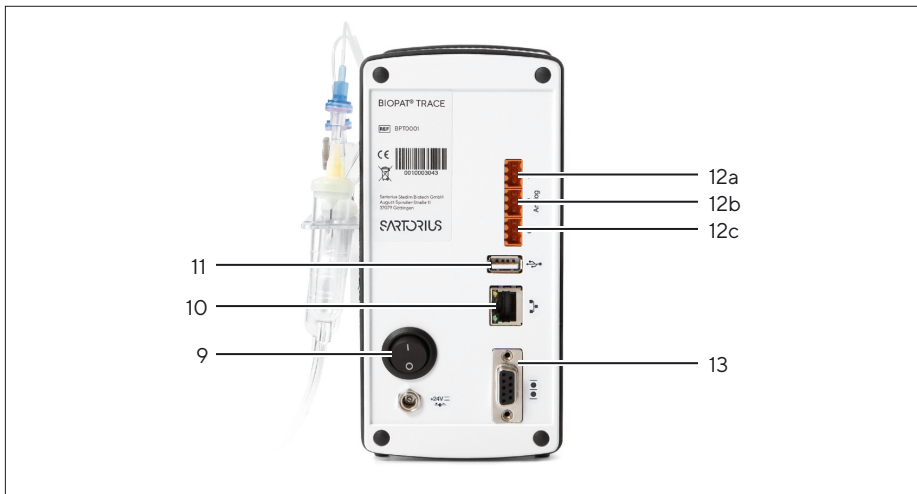

Fig. 8: Connections
Figure 8 shows the rear view of the BioPAT® Trace | Multi Trace. The device can be switched on and off by pressing the On/off switch (9). Using the calibration data, the electrochemical signal of the biosensor is converted internally to a concentration value. The measured value is output after the analysis is completed on a PC interfaced to the Ethernet connection (10). Optionally, the signals can be output via the analog signal outputs (12). The following ranges are possible: 0..10 V, 0..20 mA, 4..20 mA. The USB interface (11) and the serial interface (RS232 port) (13) can also be used for data transfer (currently not implemented).